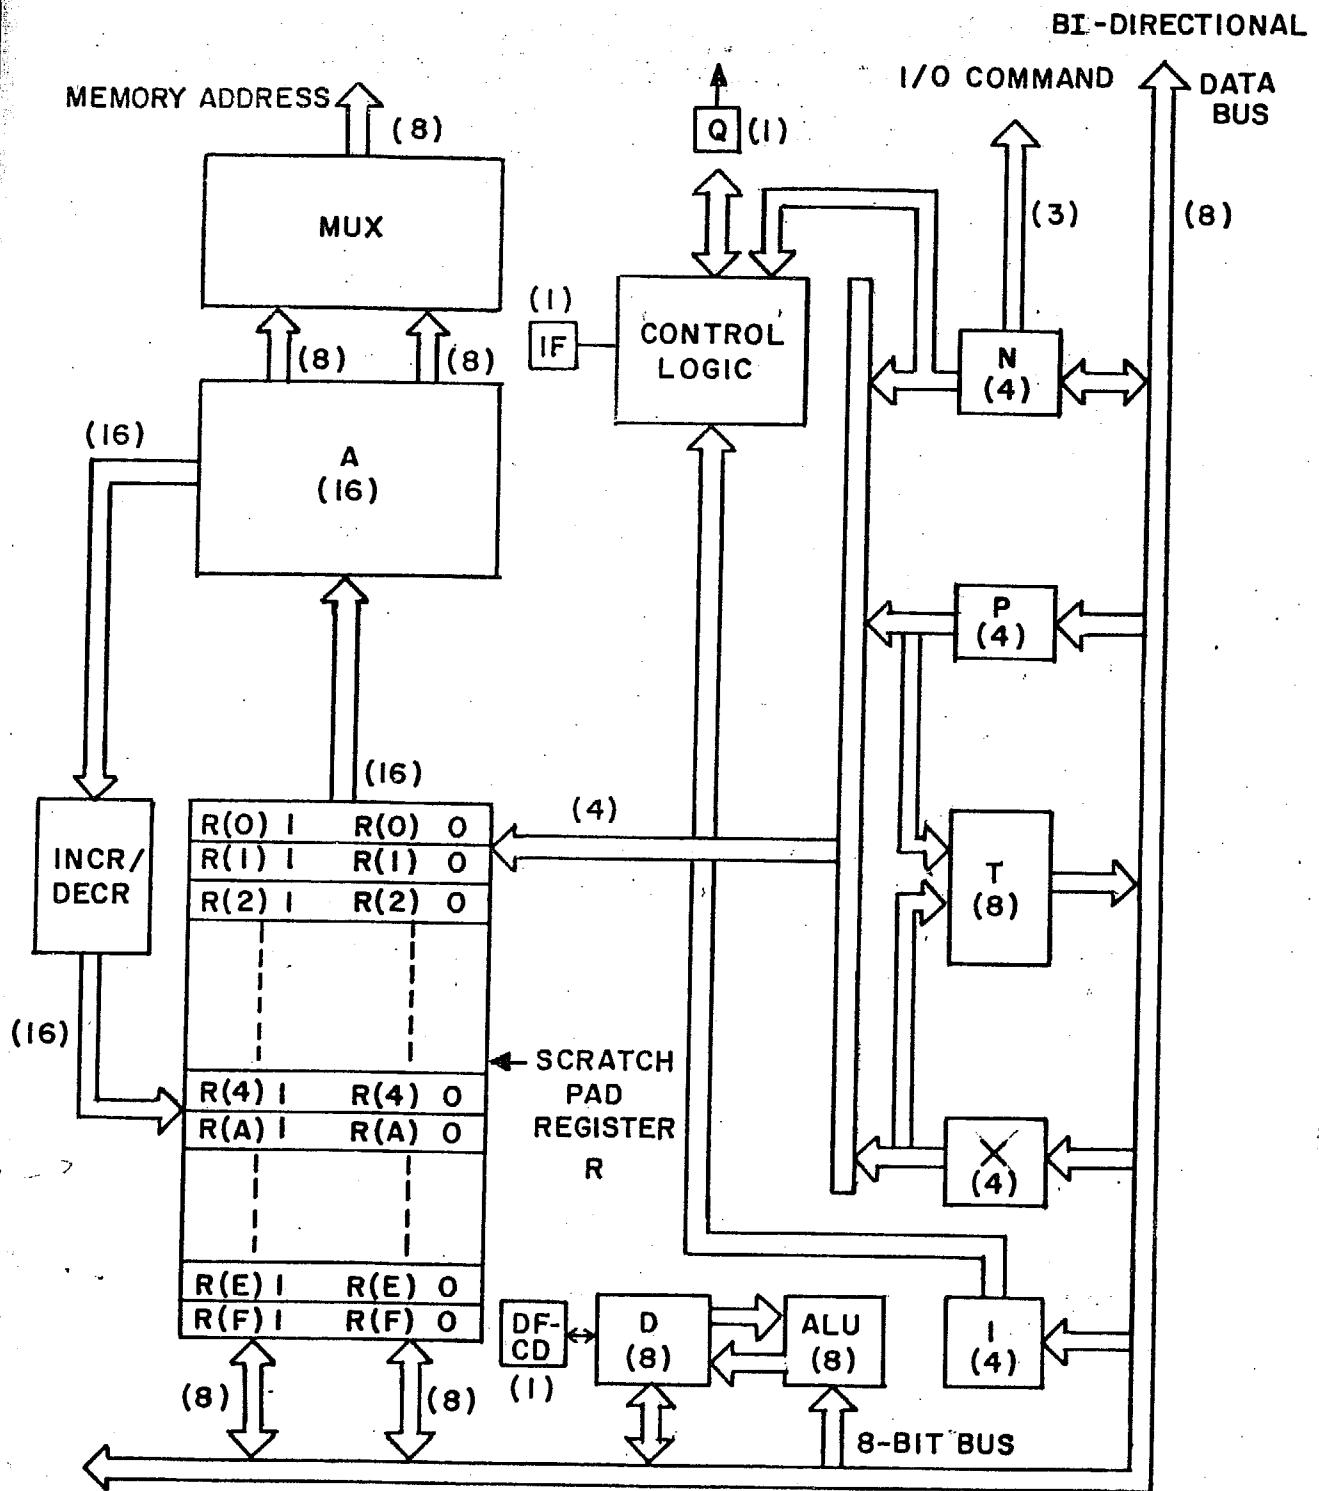

FIG.1 INTERNAL STRUCTURE OF
- Fig.1 : Internal architecture of 1802.